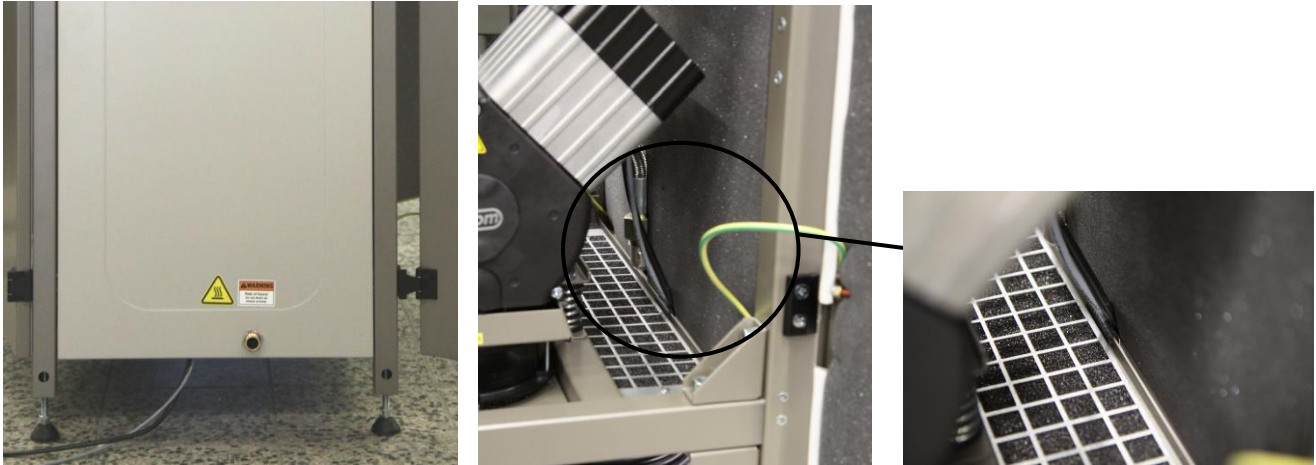

Fig.13
- Connect the compressor module to sensor B1 located on the air tank using the W23 cable, which is terminated with a valve connector. (Fig.13, Fig. 15)